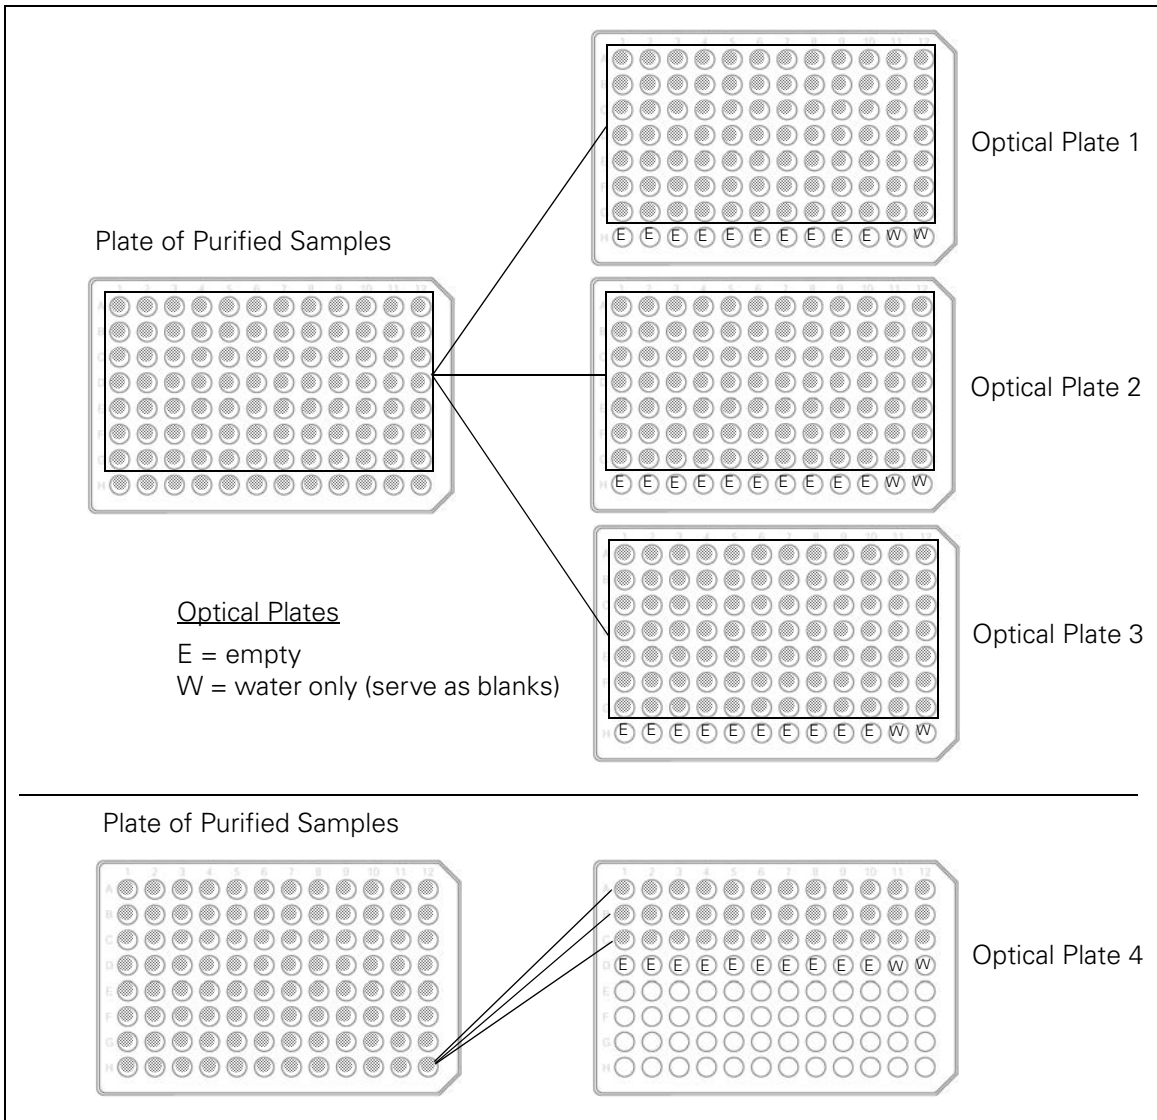

Figure 4.5
- A. Transfer 2 μL of each purified PCR product from rows A through G of the purified sample plate to the corresponding rows and wells of optical plates 1, 2 and 3 (see Figure 4.5 on page 89).
- A. Take 3 OD readings for every sample (1 from each optical plate; P1, P2, P3 and P4 in Figure 4.5 on page 89).